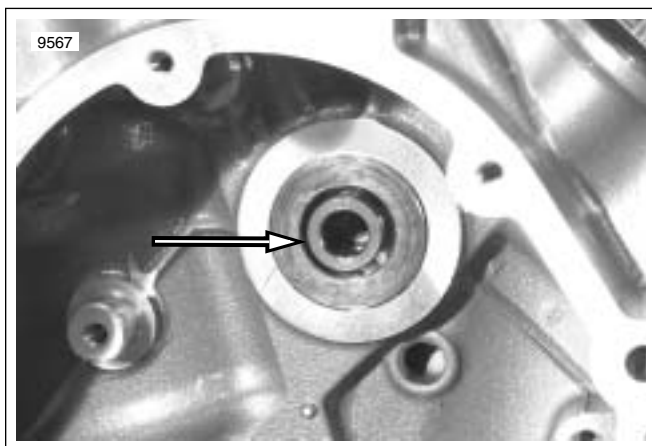

Figure 3-241. Water Pump Shaft
2. See Figure 3-241. Insert water pump shaft through case until flush with case on cam drive side.